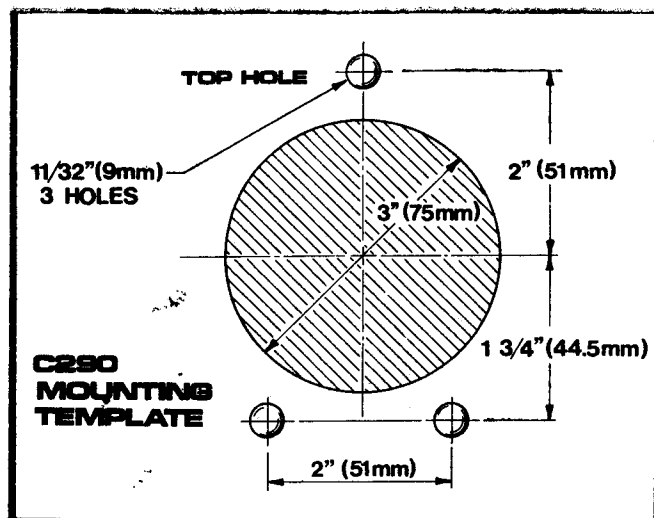

FIGURE 3
3. Locate the full-size mounting template (supplied with the *Bezel Kit*) at the desired location with the top hole at the top position and tape in place. Drill the three each 11/32" diameter holes perpendicular to the face of the dash. Then cut or drill the 3.00" diameter center hole. See Figure 3 for a reduced view of the template. Locate the *Mounting Bracket* (#1 or #8) on the dash and secure with the *Bolts* (#2), *Washers* (#3) and *Lock Nuts* (#4) supplied. Torque the *Lock Nuts* to 50 in.lbs.
4. The *Helm Assembly* can be rotated on the *Mounting Bracket* to accommodate Cable entry. The best position for the *Drive Unit* is where the Cable can be installed with a minimum amount of bending. Figure 3 shows the Cable End positions for either PUSH or PULL for right turn operation. The *Drive Assembly* is adjustable in 45 degree increments from the top right or the top left cable entry positions.